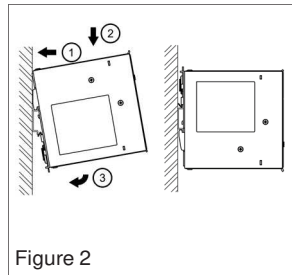
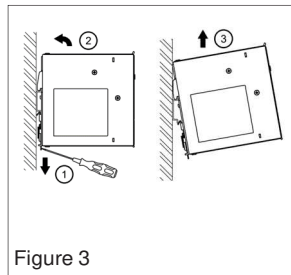

Figure 2
Figure 3
3. Mounting and dismounting (Fig. 2, Fig. 3)
1. Tilt the unit slightly upwards and put it onto the DIN rail. Snap on the DIN rail as shown in Fig. 2.
5. To uninstall, pull or slide down the latch as shown in Fig. 3. Then, slide the PSU in the opposite direction, release the latch and pull out the PSU from the rail.